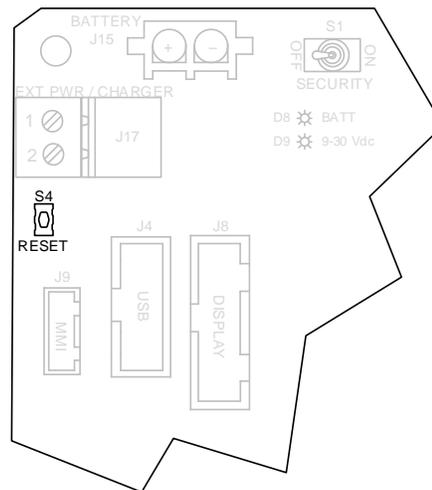

Figure 69: S4 Reset button location
1. Open the flow computer door and locate the Reset button (S4) on the μ FLOG^{G5} board (see Figure 69).